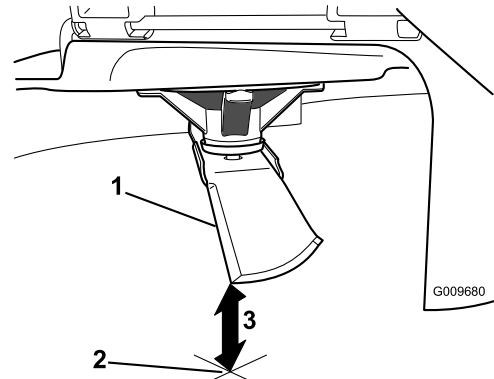

Figure 42
- 3. Measure from the tip of the blade to the flat surface (Figure 42).